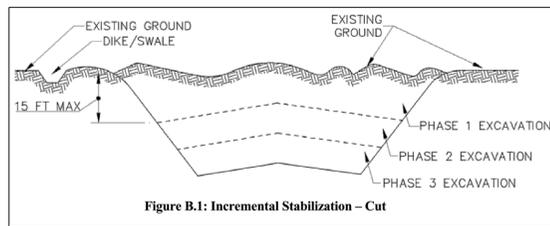

Figure B.1: Incremental Stabilization - Cut
- A. Incremental Stabilization - Cut Slopes 1. Excavate and stabilize cut slopes in increments not to exceed 15 feet in height. Prepare seedbed and apply seed and mulch on all cut slopes as the work progresses. 2. Construction sequence example (Refer to Figure B.1): a. Construct and stabilize all temporary swales or dikes that will be used to convey runoff around the excavation. b. Perform Phase 1 excavation, prepare seedbed, and stabilize. c. Perform Phase 2 excavation, prepare seedbed, and stabilize. Overseed Phase 1 areas as necessary. d. Perform final phase excavation, prepare seedbed, and stabilize. Overseed previously seeded areas as necessary.